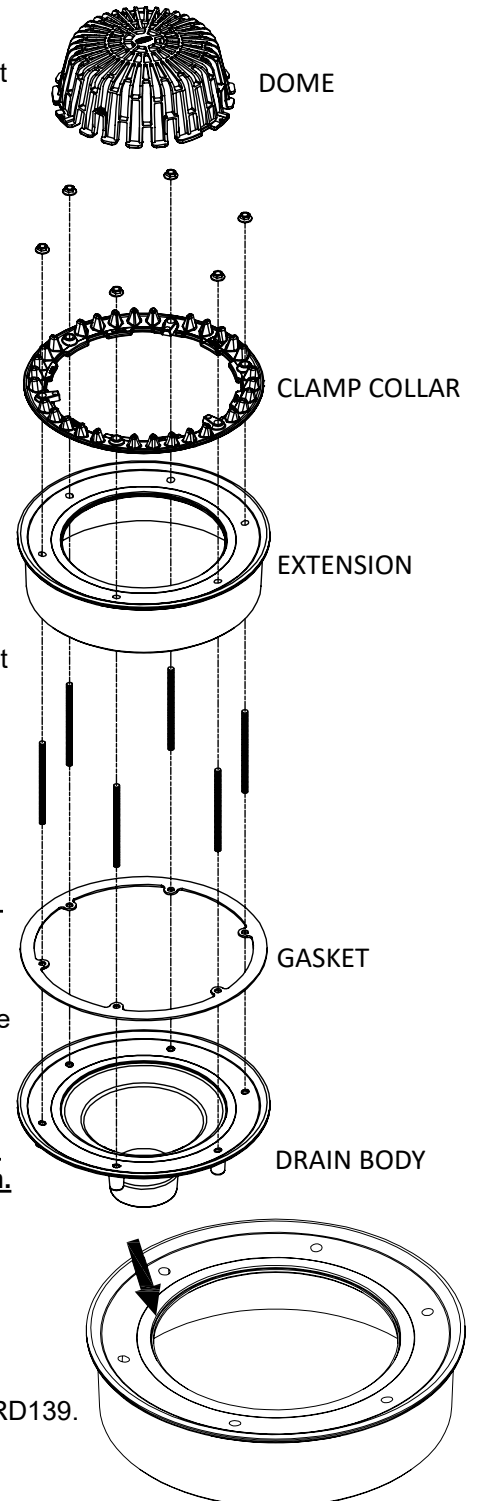

Fig. 1
7. Cut the membrane as per the roof membrane manufacturer's requirements in the center of the clamping collar. Continue to cut outward until the precast cutting edge in the extension body is located (Fig 1). Once precast edge is found, cut out circular section of membrane by following the cutting edge. **Warning: Failure to properly cut the membrane along the prescribed cut edge of the extension body may result in decreased flow performance of the roof drain.**